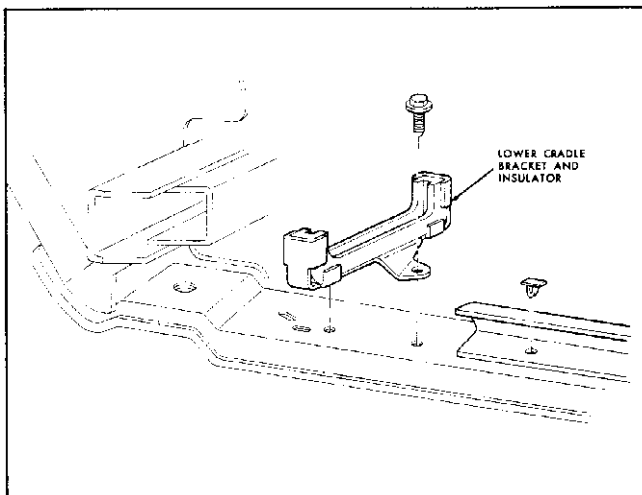
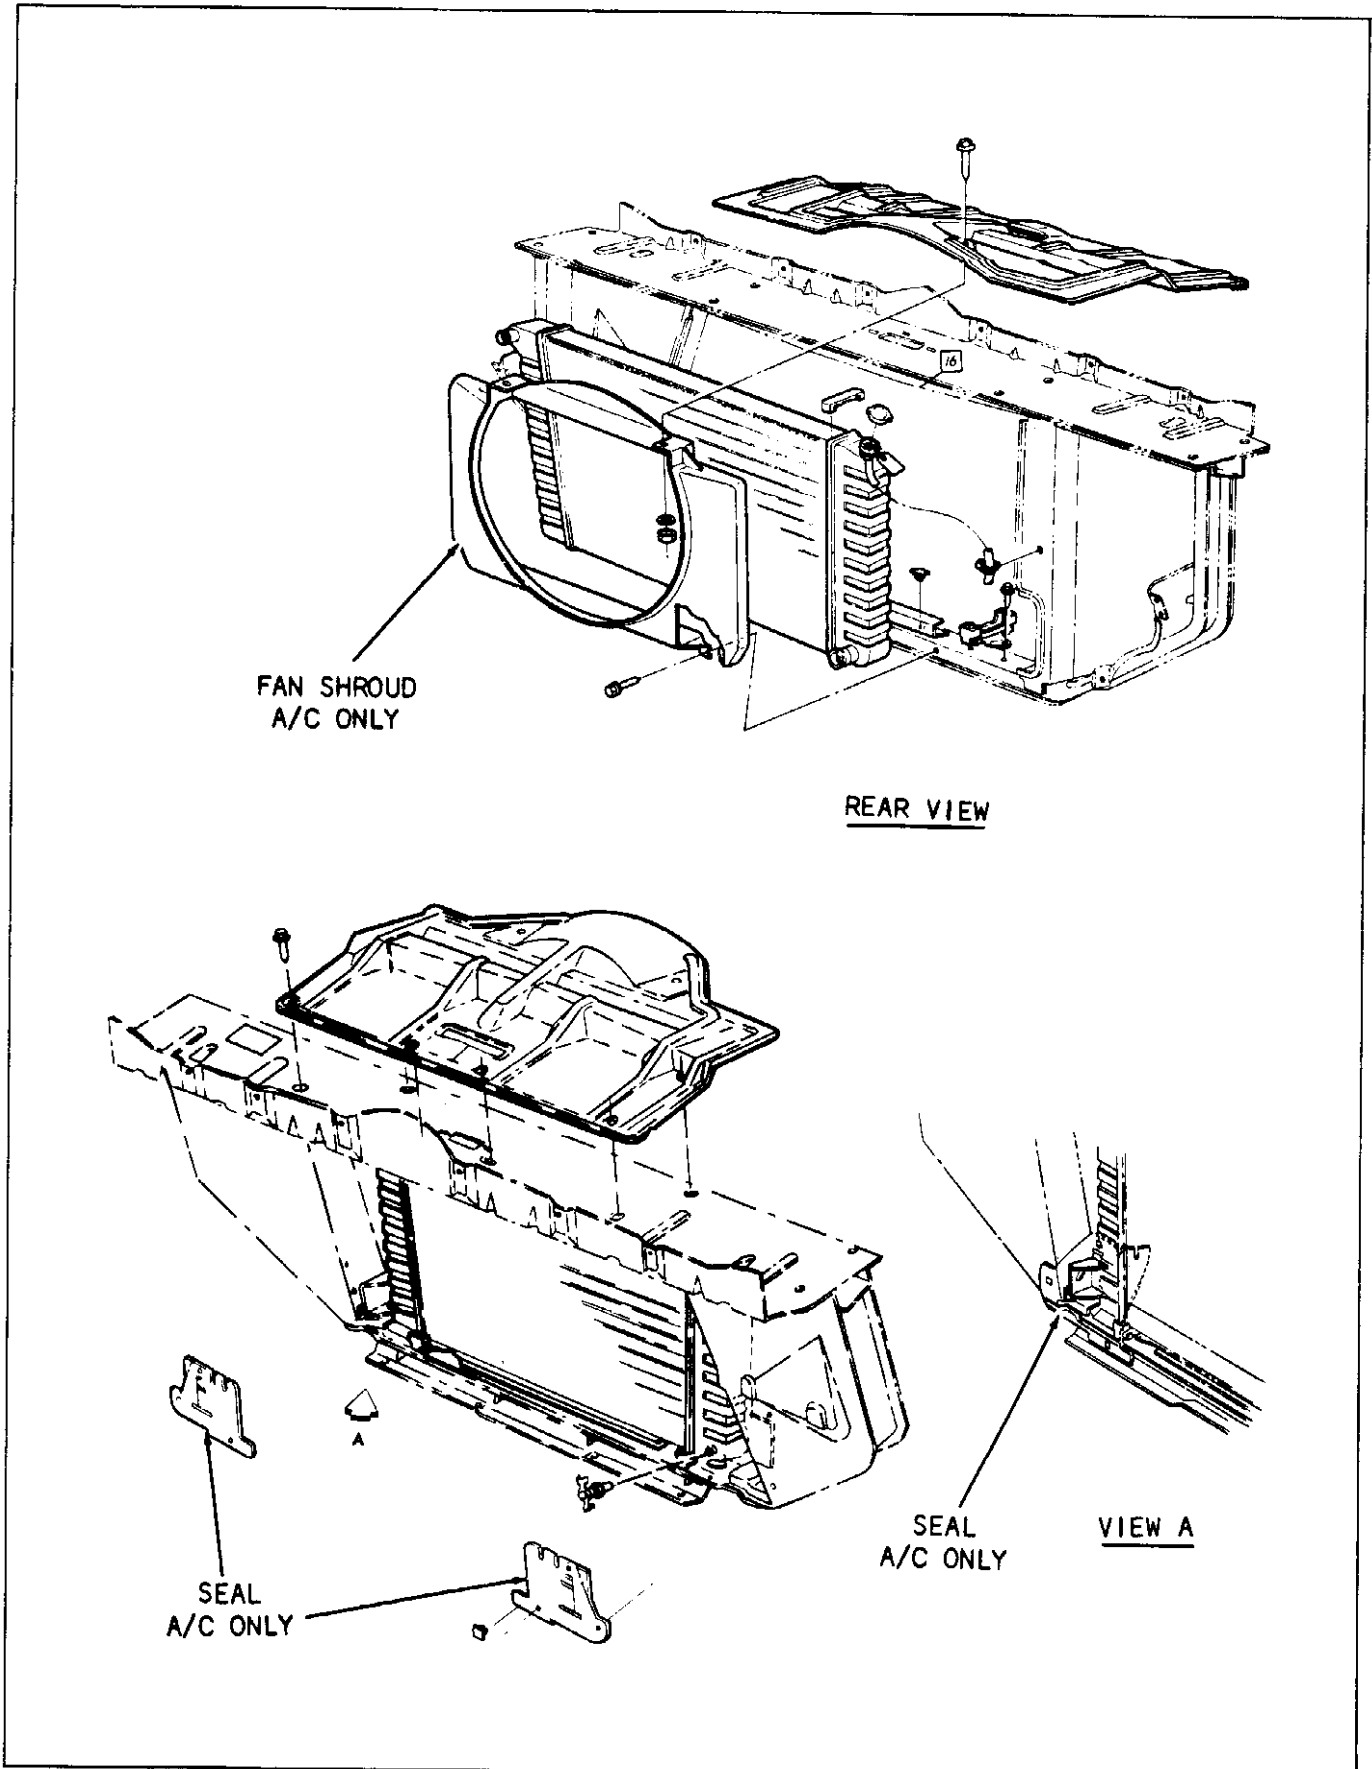
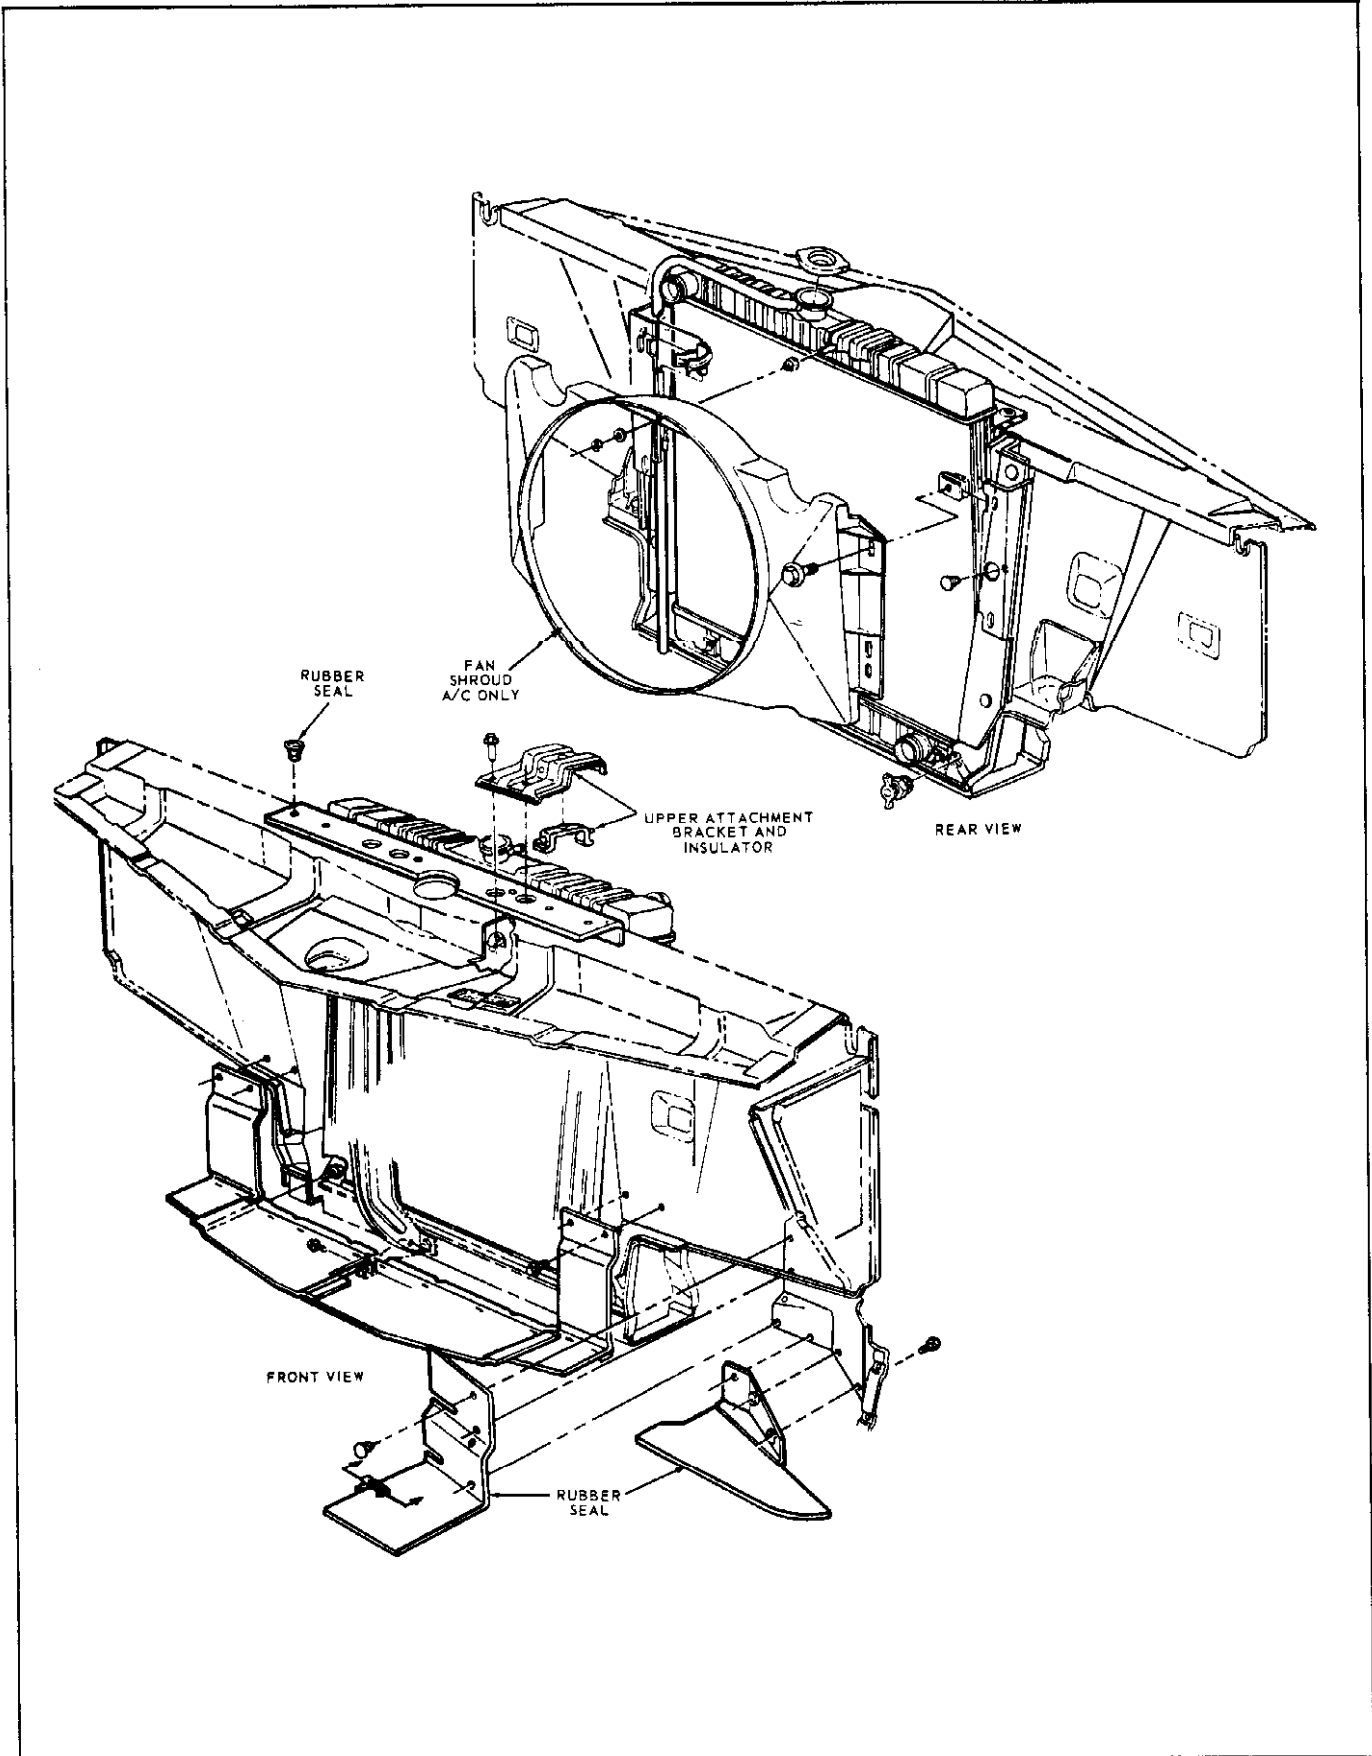

Fig. 13-1 Pontiac Lower Cradle Bracket and Insulator
Fig. 13-3 Support and Baffle Assembly (Pontiac)
Fig. 13-4 Support and Baffle Assembly (Tempest)
All radiators are supported by insulated cradle type brackets (Figs. 13-1 and 13-2), which retain both the lower and upper radiator tanks. Pontiac's two upper cradles are attached to the bottomside of the upper panel mounting assembly (Fig. 13-3), which, in turn, is fastened to the front end support and baffle assembly. Tempests utilize only one upper attachment bracket which mounts directly to the support and baffle assembly (Fig. 13-4).
NOTE: The upper portion of radiator is held in place by cradle type brackets attached to bottom side of upper panel mounting assembly (Fig. 13-3).
- Tempest: Remove the upper attachment bracket and insulator from the top of the support and baffle assembly (Fig. 13-4).
NOTE: Radiator is held at bottom by two cradle type brackets and insulators secured to support and baffle assembly (Figs. 13-1 and 13-2).